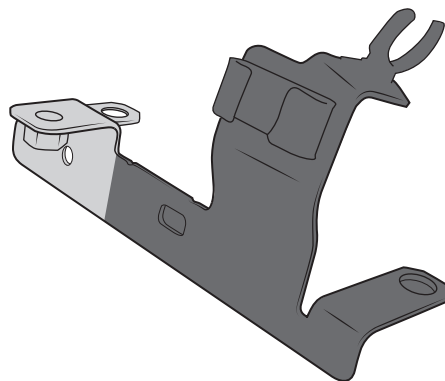

Figure 20: Cut and save lighter portion
16. Cut, prep, paint, and install transmission dip stick bracket (fig 20).